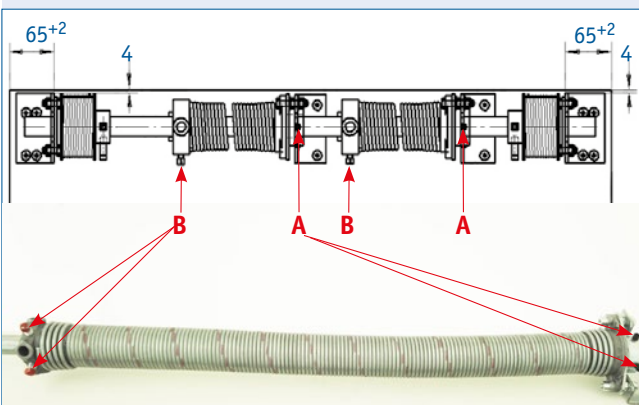
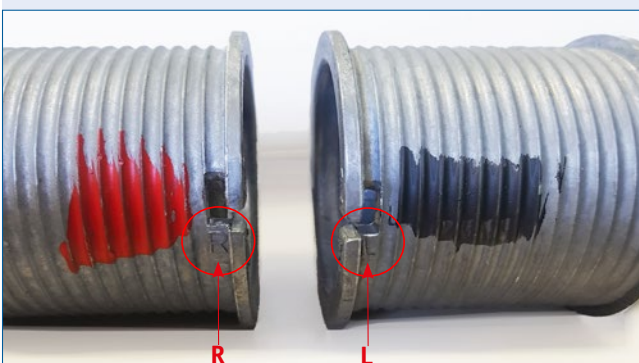

Fig. 3.1.2
Fig. 3.1.3
- To **install the spring shaft** (Fig. 3.1.2) first fix the outer brackets (welding or rivets) if these are not welded to the vertical rail.
Attention: On the cable reels there is either a L or an R. Install the reel with the R on the driver's side (Fig. 3.1.2)!
An uncontrolled loosening of the set screws and spring brackets or spring heads relaxes the spring suddenly and can lead to injuries! (Fig. 3.1.2, Fig. 3.1.3).